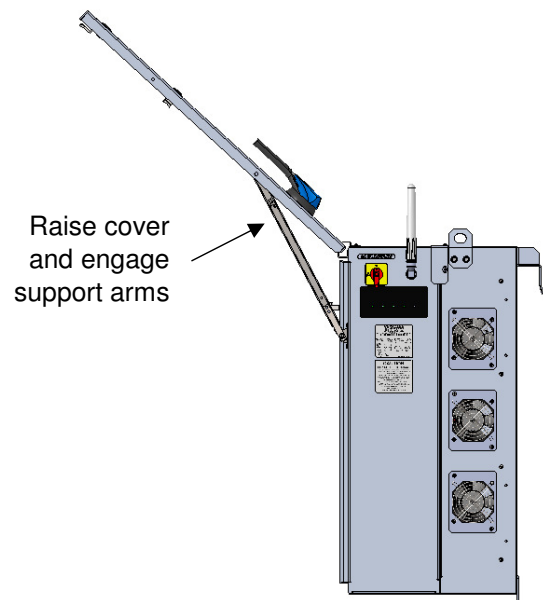

Fig. 3-7. Inverter Cover Support Arms
Make sure the disconnect handle is in the off (0) position. Use a flat head screw driver to unfasten the five quarter-turn latches on the front cover, as shown in . Lift the bottom of the cover and swing upward. Stop if you feel resistance and check the switch handle position. Make sure both cover supports are engaged, as in Figure 3-7.